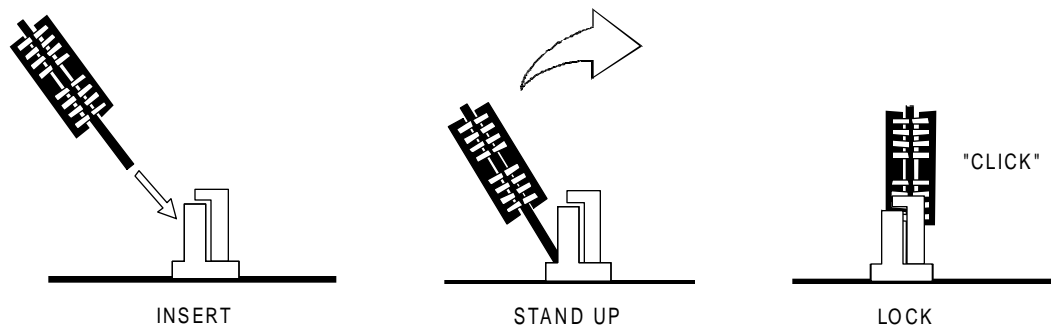

Figure 2-4: SIMM Installation
3. Insert the SIMM into the socket at a 45 degree angle (approximately). Make sure the SIMM is completely seated in the socket (See **Figure 2-4**).